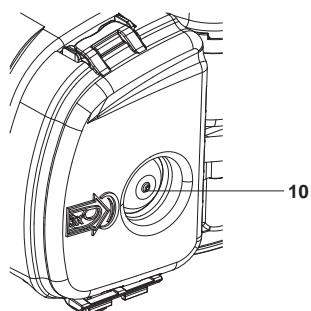
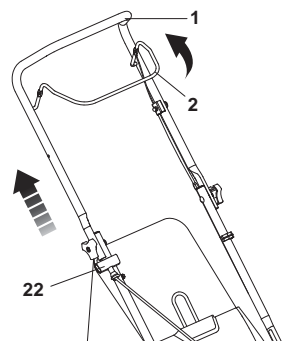

Fig. 16
Fig. 17
1. Press the primer (10) three to five times (Fig. 16, step 1) when engine is cold. Once engine has been run and is hot there is no need to push primer.
2. Stand behind the handle (1).
3. Pull the brake bar (2) against the handle (1) and hold it in position with one hand (Fig. 17, step 2).
4. Pull the recoil starter handle (22) lightly until you feel resistance then pull it rapidly. Do it again until the engine starts (Fig.17, step 3).
5. When you are ready to mow hold the brake bar (2) with both hands with the handle (1). Pushing the mower forward and the mower begins mowing.